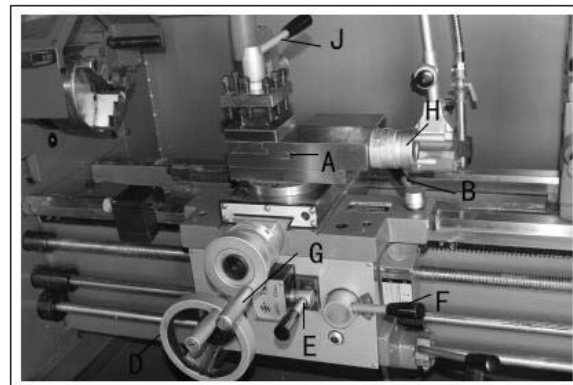

Figure 15
8. **Compound Lock (A, Fig. 15)** – hex socket screw located on left side of compound. Turn clockwise to lock and counter-clockwise to unlock.
9. **Carriage Lock (B, Fig. 15)** – lock handle located on top of carriage. Turn clockwise to lock. Turn counter-clockwise to unlock.
10. **Longitudinal Traverse Hand Wheel - (D, Fig. 15)** – located on the apron assembly. Rotate hand wheel clockwise to move the apron assembly toward the tailstock. Rotate the wheel counter-clockwise to move the apron assembly toward the headstock.
11. **Feed Selector (E, Fig. 15)** – located in the center front of the apron assembly. Pushing lever to the left and down activates the crossfeed function. Pulling lever to the right and up activates the longitudinal function.
12. **Half Nut Engage Lever (thread cutting)** (F, Fig. 15) – located on front of the apron. Move the lever down to engage. Move the lever up to disengage.
13. **Cross Traverse Handwheel** (G, Fig. 15) – located above the apron assembly. Rotate clockwise or counter-clockwise to move, or position.
14. **Compound Rest Traverse Handwheel** (H, Fig. 15) – located on the end of the compound slide. Rotate clockwise or counter-clockwise to move, or position.
15. **Tool Post Clamping Lever** (J, Fig. 15) – located on top of the tool post. Rotate counter-clockwise to loosen and clockwise to tighten.